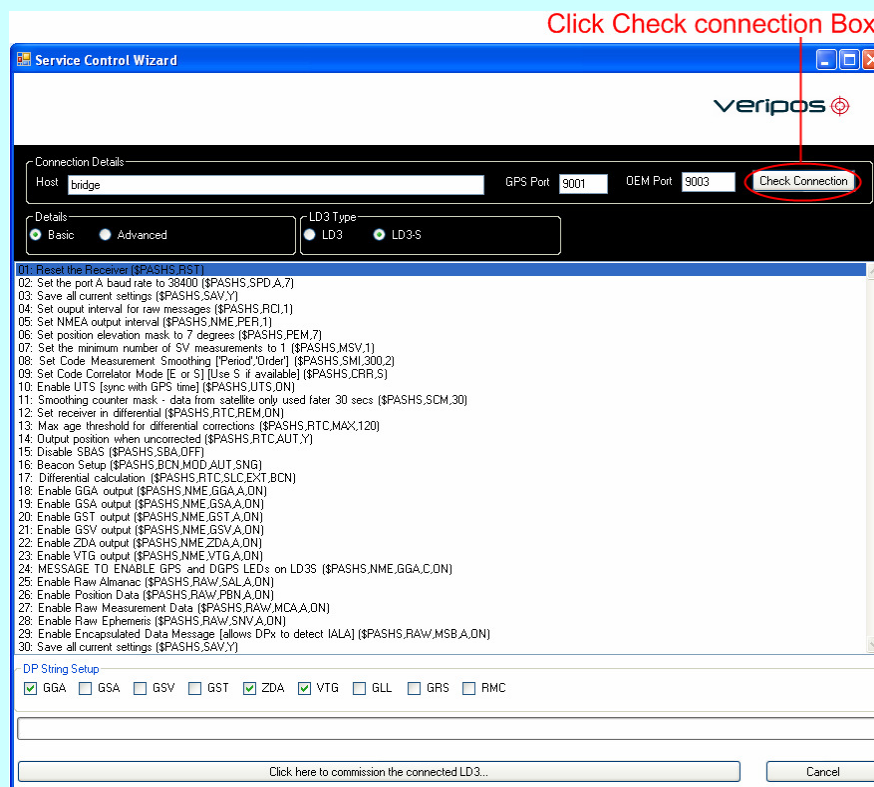

Fig 9 Commissioning Tool – Check Connection
5.4 Click the Check Connection Box as in Fig as in Fig 9